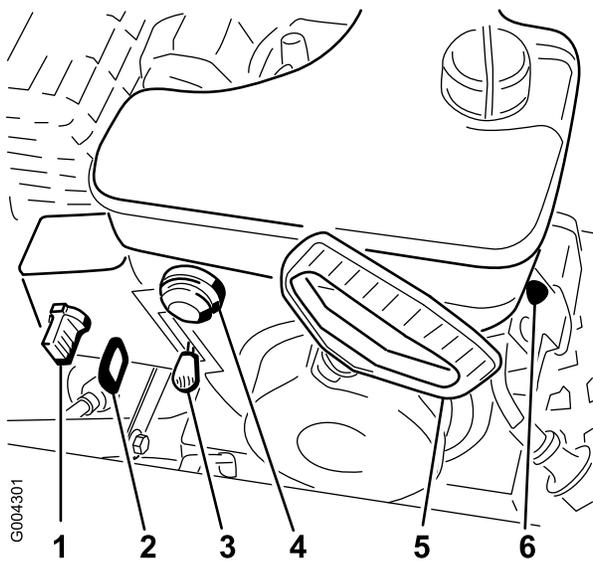

Figure 14
2. Remove the key from the ignition switch (Figure 14).
3. Pull the choke knob off (Figure 14).
2. Move the throttle lever to the Fast position (Figure 14).
5. Rotate the choke (Figure 14) to the On position.
6. Insert the ignition key (Figure 14).
7. Cover the hole in the center of the primer (Figure 14) with your thumb and slowly push in the primer 3 times, pausing a moment between pushes.
8. Grasp the recoil starter handle (Figure 14) and pull it out slowly until positive engagement results; then pull the handle vigorously to start the engine.
10. After the engine starts, immediately rotate the choke (Figure 14) to the 3/4 position. As the engine warms up, rotate the choke to the 1/2 position. When the engine warms up sufficiently, rotate the choke to the Off position.